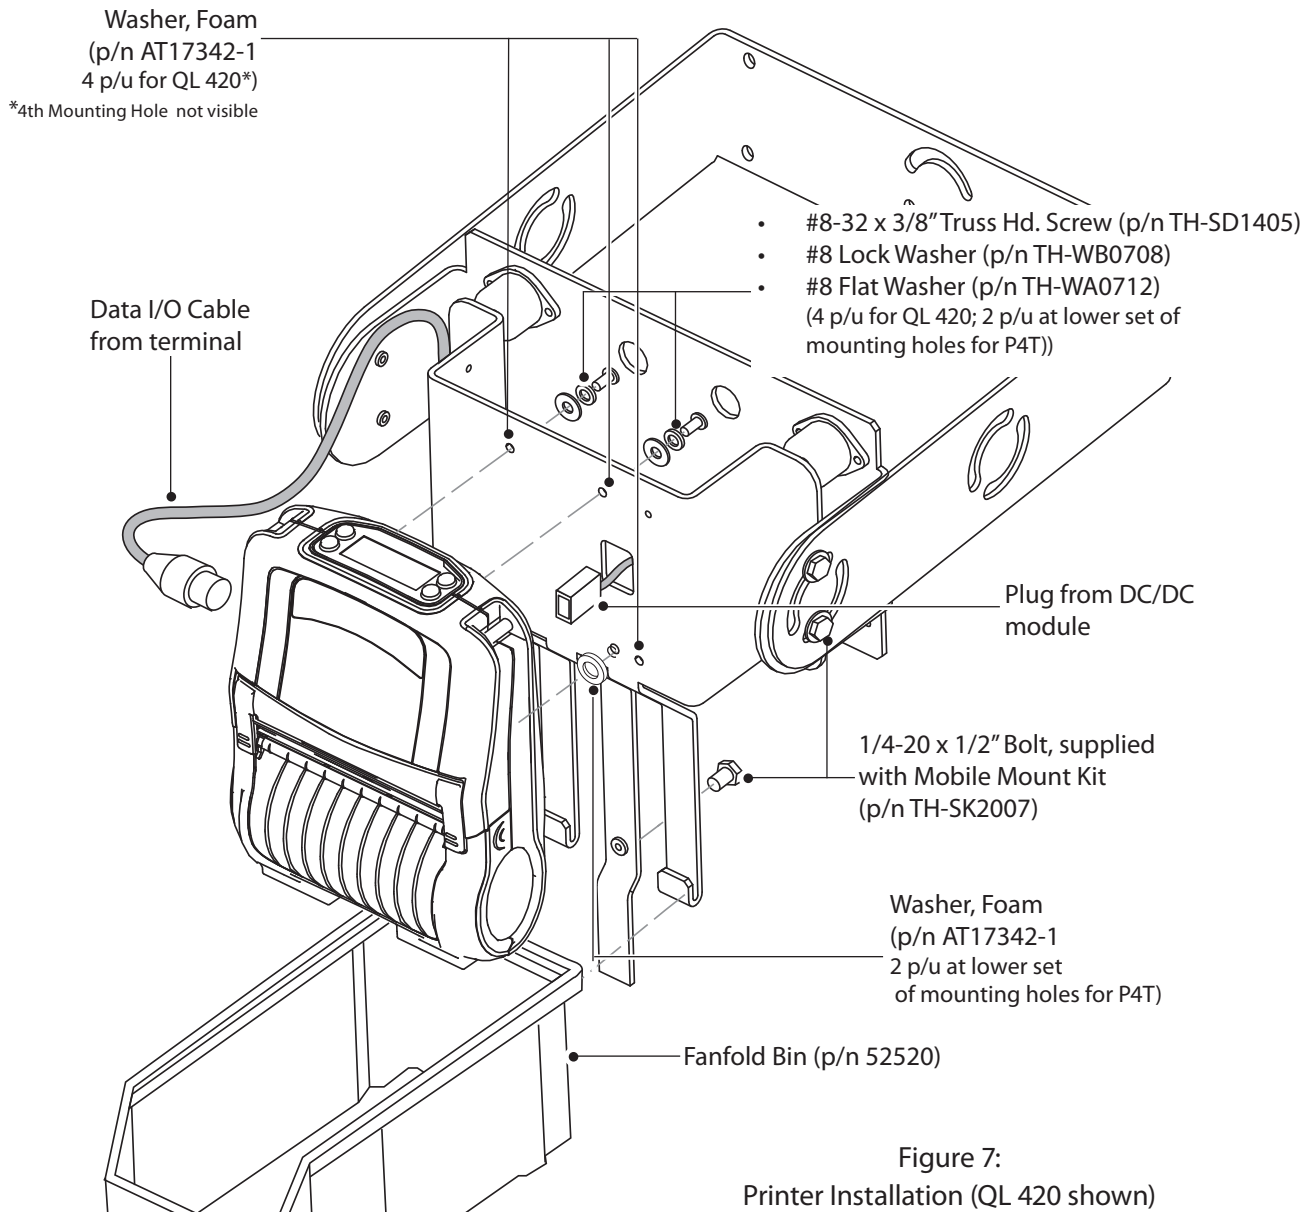

Figure 7:
Peel adhesive backer from the (4) Foam Washers and apply to the Mounting Plate over the printer mounting holes as indicated in Figure 7. Secure the printer to the Mobile Mount Bracket with (4) #8-32 x 3/8" Screws, Lock Washers and Flat Washers. Do not exceed an installation torque of 7 in/lb. [.79 Nm] on these screws.
Peel adhesive backer from (2) Foam Washers and apply to the Mounting Plate over the printer mounting holes as indicated in Figure 7. Secure the printer to the Mobile Mount Bracket with (2) #8-32 x 3/8" Screws, Lock Washers and Flat Washers. Do not exceed an installation torque of 7 in/lb. [.79 Nm] on these screws.